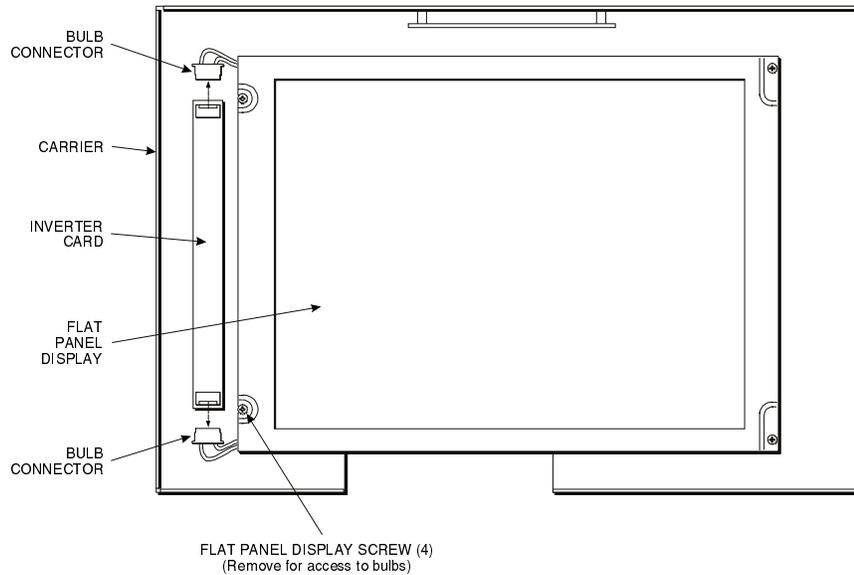

Figure D-5. Model #LQ14X03 - Rear View
9. While holding the flat panel display up, lift the flange of the bulb assembly over the locking tab (refer to Figure D-5), as you slide the assembly out. The bulbs are attached to the assembly.